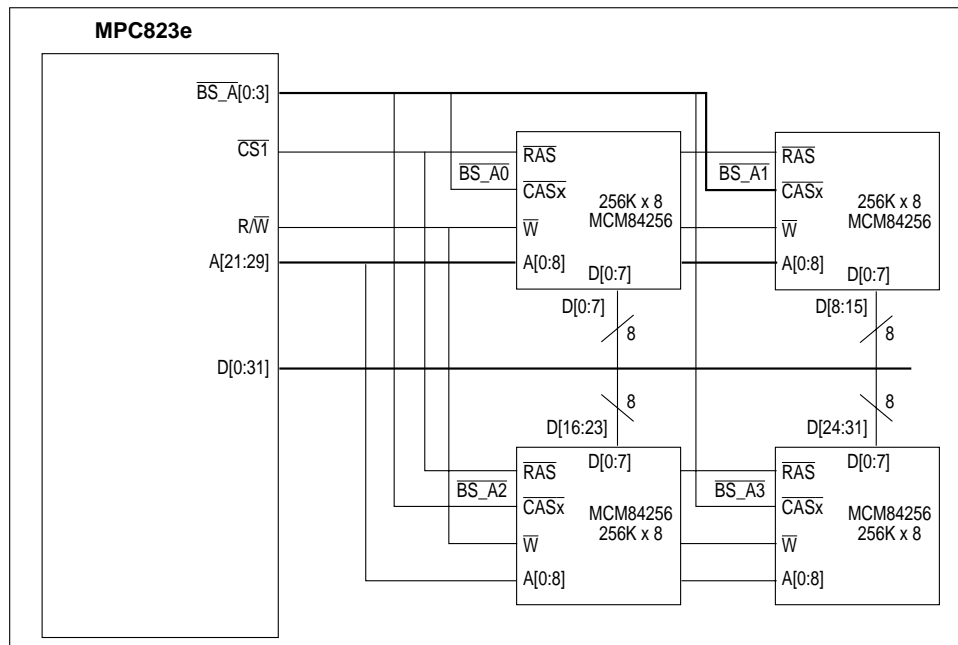

Figure 15-41. Page Mode DRAM Interface Connection
The configuration for a 1M, 32-bit wide memory system using four 256K x 8-bit DRAMs is illustrated in Figure 15-41. Also shown is the physical connection between UPMA and the page mode DRAM. The  $\overline{CS1}$  signal is connected to all the  $\overline{RAS}$  signals and controlled by the base register. The  $BS\_A[0:3]$  signals are mapped one-to-one to each of the four DRAMs and are controlled by the UPM RAM word. The refresh rate is calculated based on a 25MHz baud rate generator clock and the DRAM that requires a 512-cycle refresh every 8ms.
1. Determine the system architecture, which includes the MPC823e and the memory system as shown in the example in Figure 15-41.